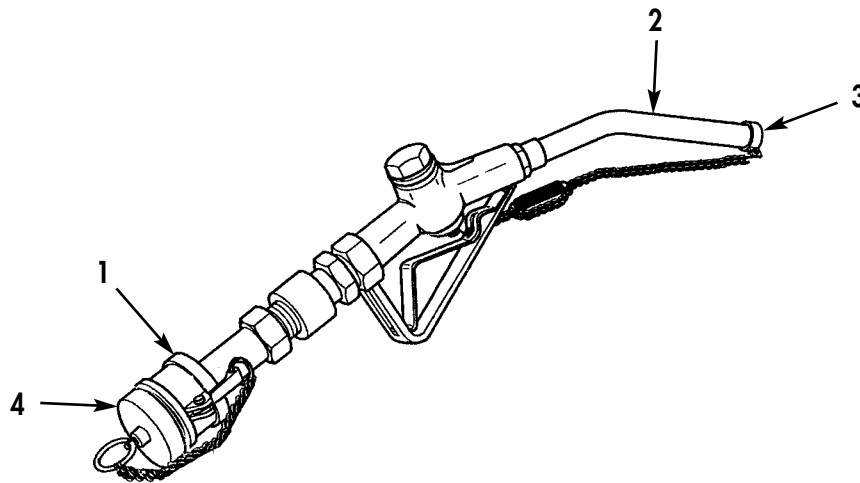

Figure 1. Nozzle Capped and Plugged.
1. Ensure dust cap (Figure 1, Item 3) and plug (Figure 1, Item 4) are installed securely on nozzle spout (Figure 1, Item 2) and coupling half (Figure 1, Item 1).